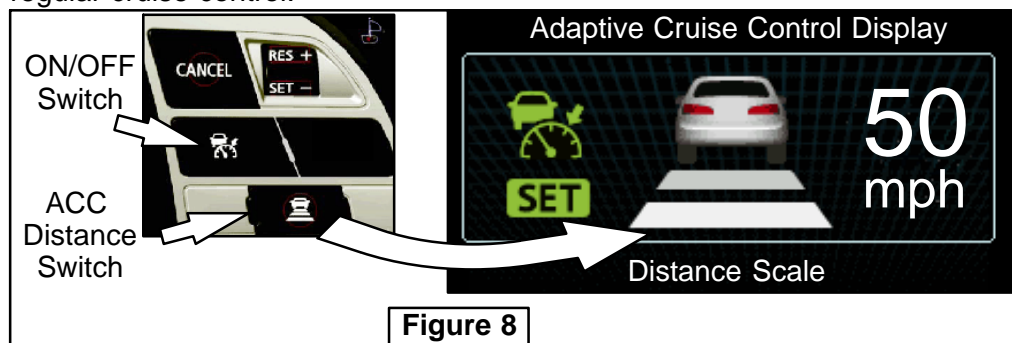

Figure 8
- h. Confirm the MID displays the screen for ACC when set (see Figure 8).